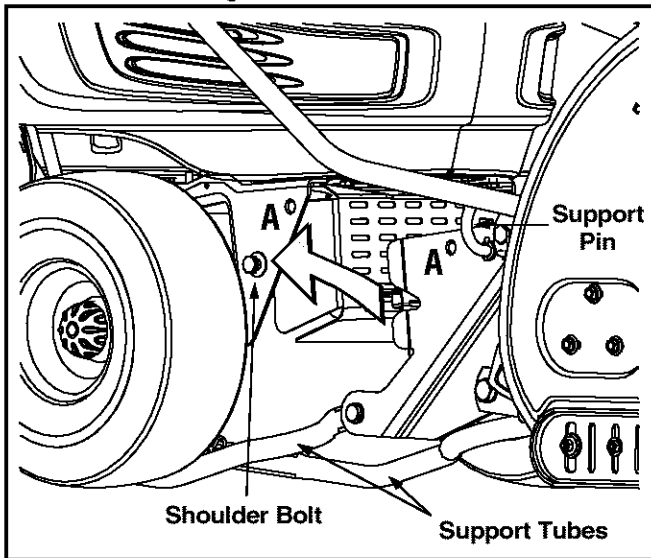

Figure 14
6. Simultaneously lift upward until the hooks found on the rear of the lift assembly are positioned over the shoulder bolts found on both the left and the right sides of the tractor's front pivot support brackets. See Figure 14.
7. Grasp the upper portion of the auger housing with both hands (where the decorative label is found) and pivot the assembly upward until the support pin holes align with the holes in the tractor's front pivot support bracket. Both of these holes are marked with an 'A' in Figure 14.